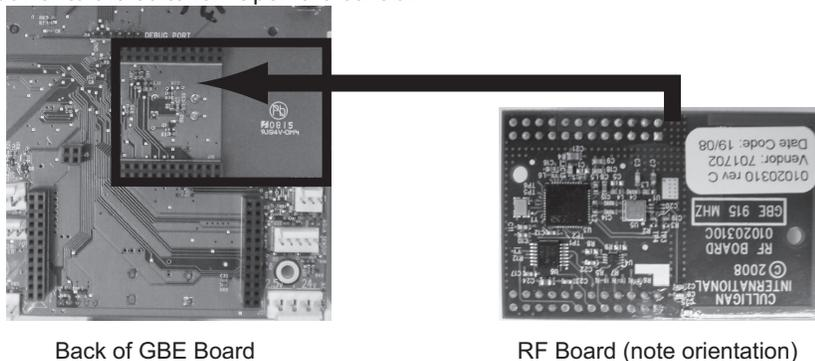

Figure 39. RF board location on Smart Controller board.
5. Install RF board into unit controller. Line up pins in RF board and press firmly into black connectors. Note orientation of RF board (see Figure 39). Make sure the RF board is fully seated into all of the sockets. Reconnect power.